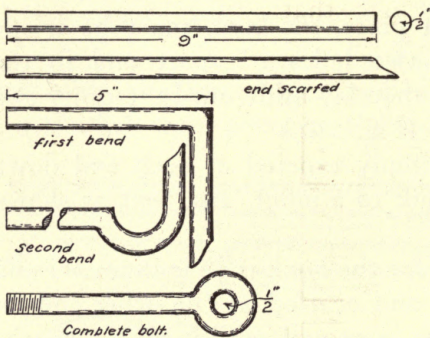

FIG. 211.-- BOLT FOR PLANK DRAG.
1. For the eye bolt in the plank drag you will need 9'' of  $\frac{1}{2}$ '' round iron. (Fig. 211.)